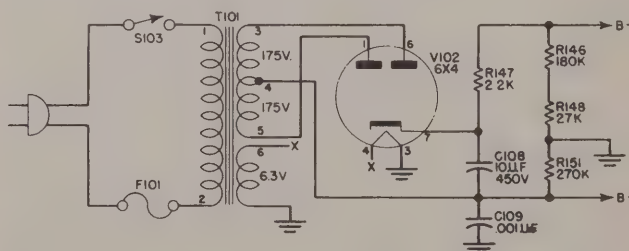

Figure 2-8. Power Supply Circuit
f. POWER SUPPLY CIRCUIT. (See Fig. 2-8)